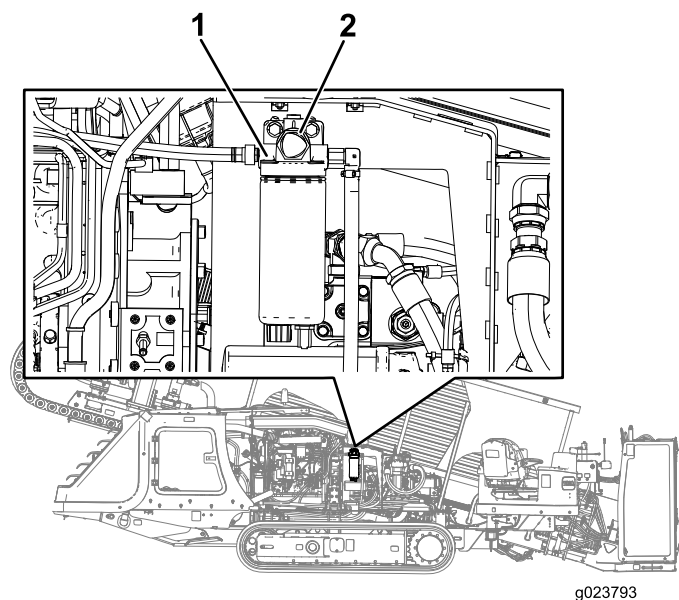

Figure 128
6. Locate the priming button on the top of the filter adapter for the primary fuel filter (Figure 128).
7. Press down and release the priming button repeatedly until you feel resistance when pressing the priming button (Figure 128).
3. Place clean rags under the primary fuel filter (Figure 128).
4. Loosen the hose clamps and separate the primary fuel filter from the fuel hoses (Figure 128).
6. Slip the hoses over the hose fitting of the primary fuel filter, and tighten the hose clamps (Figure 128).